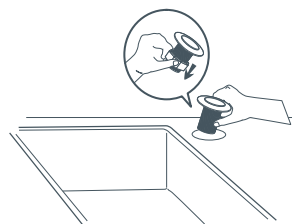
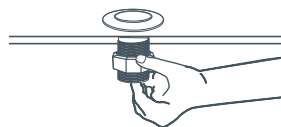

Fig. 12 Fitting the air switch
Fig. 13 Securing to the bench top
- 2 Remove the nut from the thread of the air switch (fig.12).
- 4 Insert the push button into the bench top cut out (fig.12). Feed the PVC tube through the nut. Screw the nut onto the thread tightly (fig.13), securing the push button tightly onto the bench top.